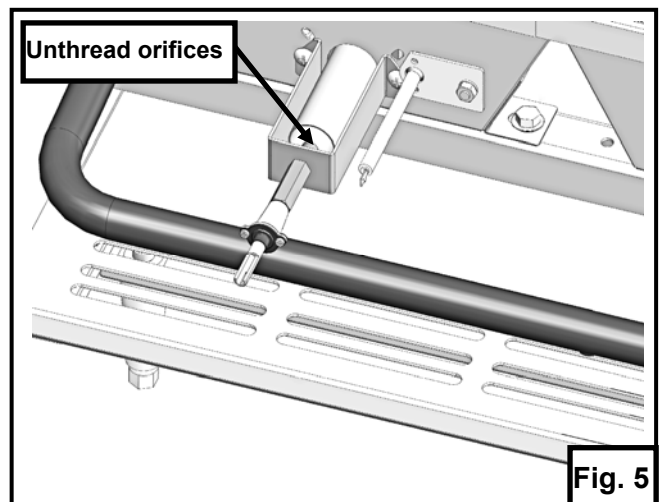

Fig. 5
4. Remove all burner orifices. Fig 5.